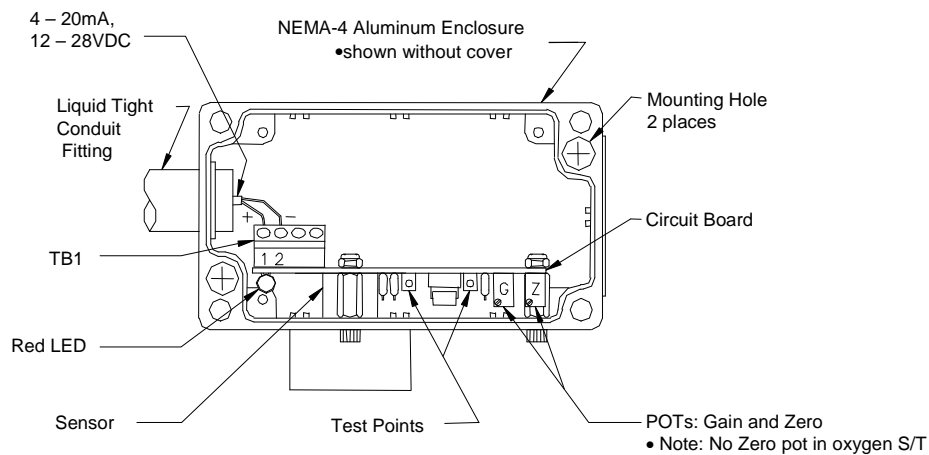

Figure 2: Sensor/Transmitter 4 – 20mA in NEMA-4 Package, Internal View
Each sensor/transmitter circuit and sensor are in a NEMA-4 aluminum enclosure, which has a combination liquid and RFI O-ring in the cover. When used with an appropriate liquid tight conduit fitting, the enclosure is sealed to the environment. The interior of a typical S/T is shown in Figure 2.
1. Remove the cover, and mount the S/T in a location appropriate for the application. Use the enclosure mounting holes as shown in Figure 2. The sensor faces down. Pay particular attention to the source and density of the target gas in choosing the S/T location.
3. Connect the plus wire to TB1-1 and the minus wire to TB1-2 on the S/T circuit board, as shown in Figure 2.
The S/T is pre-calibrated at the factory before shipment, and initial field calibration should result in only fine-tuning of the circuit. In all cases allow the S/Ts to stabilize; this may take as much as an hour depending on the type of sensor and the length of time it has been inactive. The S/T output is monitored with a voltmeter by means of the test points on the S/T circuit board see figure 2; the transfer function is:
On Toxic sensor/transmitters the LED also indicates current flow; it is dim at 4mA and bright at 20mA. When the sensor is stable and is in air uncontaminated by the target gas, adjust zero to 4mA = 100mv with the zero potentiometer, see Figure 2.